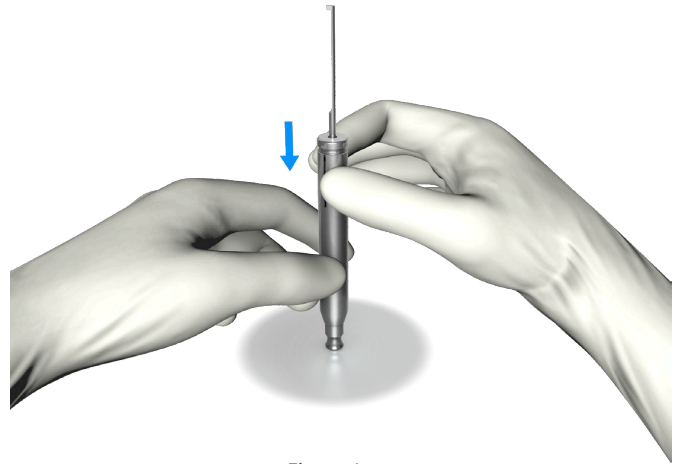

Figure 1
1. To disassemble the “Depth Gauge” for cleaning, put the the end on a flat surface and use both hands (as shown in the Figure 1) to put enough pressure on the outer sleeve (blue arrow). As shown in Figure 2 and 3, simply pull everything apart.